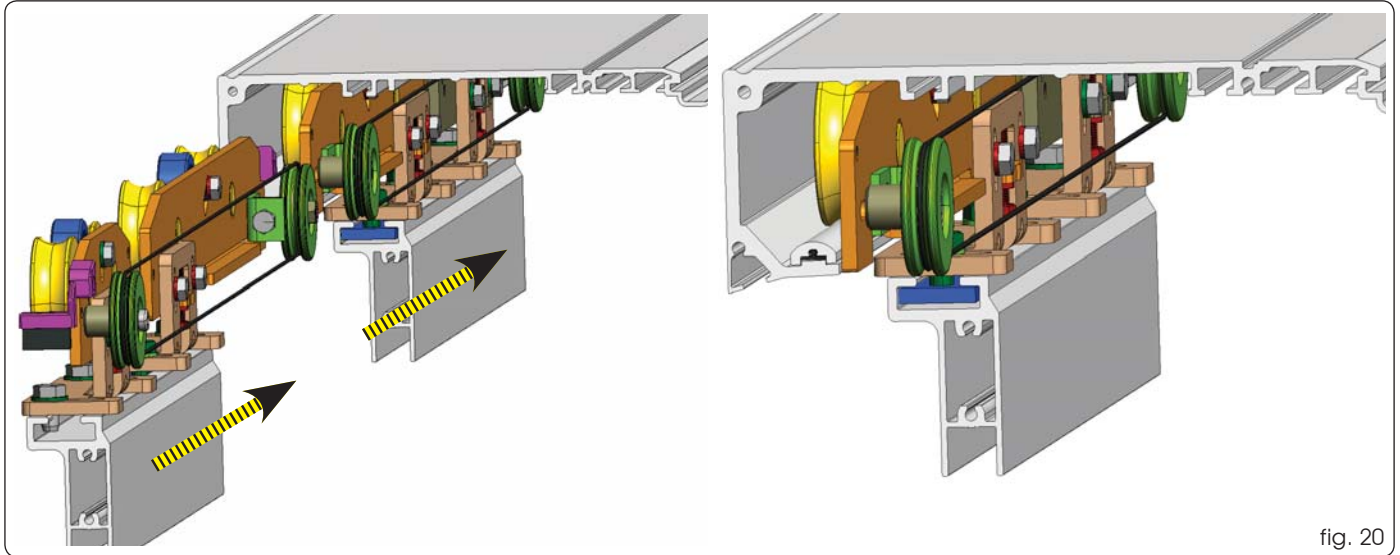

fig. 20
next fit the external carriage unit fig.20 Ref. ① laterally.